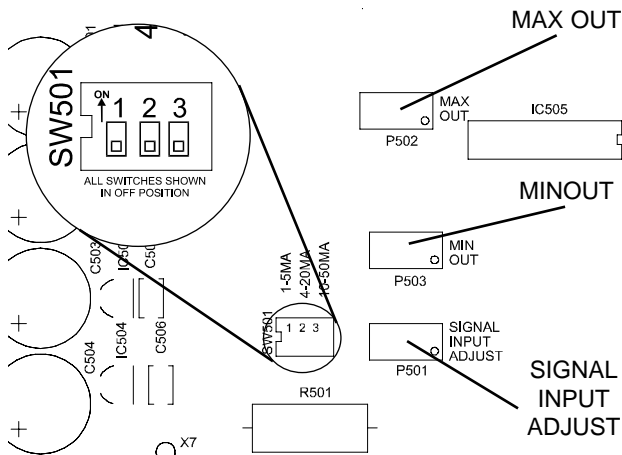

Figure 10. Calibration Trimpot and DIP Switch SW501 Location
1. Set all SW501 DIP switches to OFF (Figure 10).